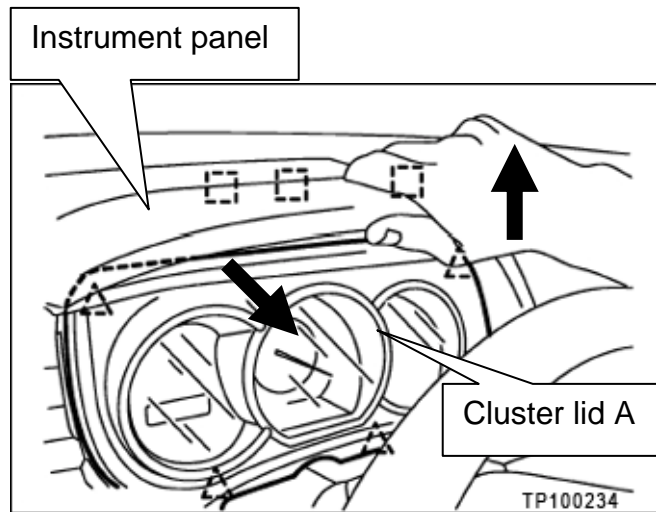

Figure 11
**NOTE:** Approximate clip locations are shown in Figure 11.